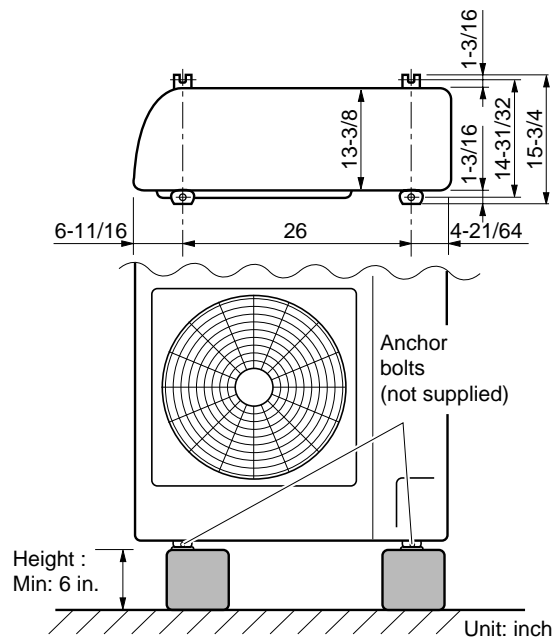

Fig. 35
- (1) Install blocks or a solid platform under the outdoor unit which provides a minimum height of 6 in. from ground level. (Fig. 35)
- (2) The outdoor unit must be bolted down tightly to the blocks or platform with 4 anchor bolts.